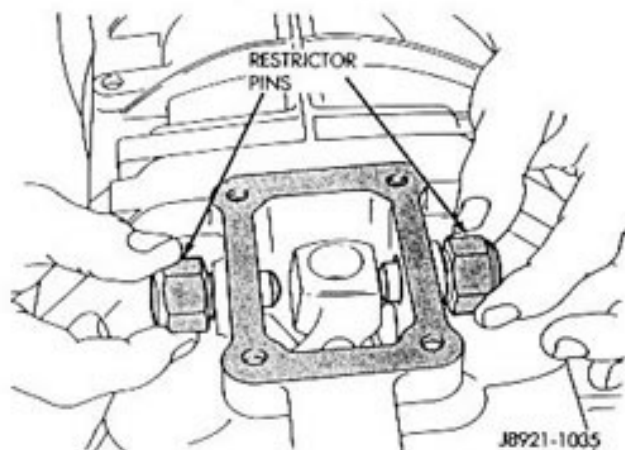

Fig. 5 Removing/Installing Restrictor Pins
- (6) Loosen and remove the restrictor pins (Fig. 5).